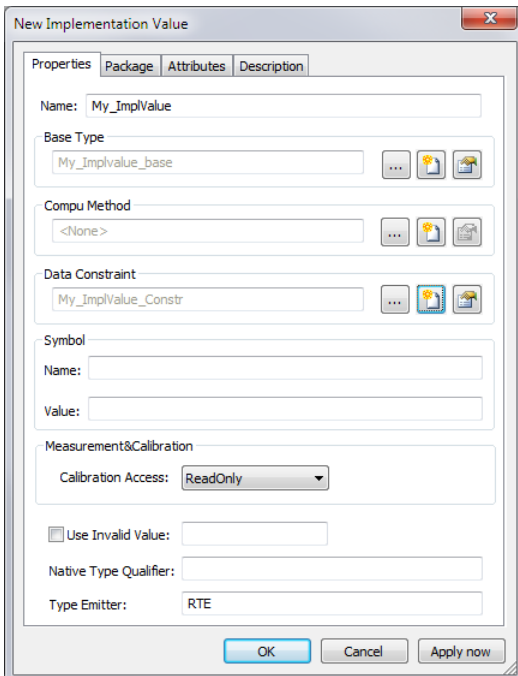
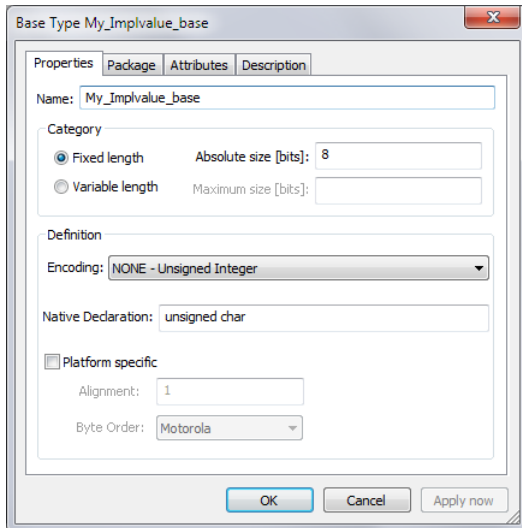

Figure 4-55 Value implementation data type
Figure 4-56 My_ImplValue_base base type
- ▶ A reference to a base type has to be given in the “Base Type” field (see Figure 4-55). In this example a “My_ImplValue_base” base type is used (see Figure 4-56). A valid “Native Declaration” must be set in the base type: unsigned char here.